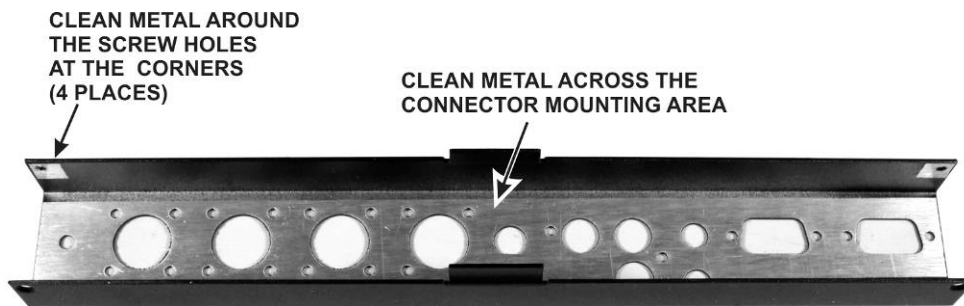

Figure 21. Preparing the Rear Panel.
- Inspect the inside surface of the rear panel and remove any tape or residue to provide a clean metal surface where shown in Figure 21.